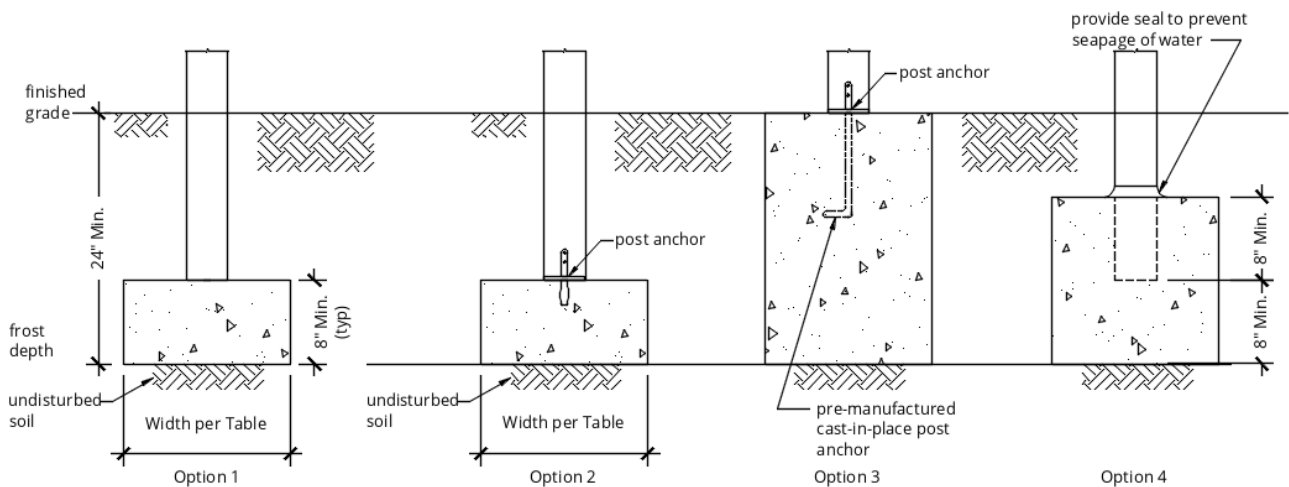

FIGURE 1 – POST TO FOOTING CONNECTION OPTIONS
- Post attachment requirements shall be in accordance with Figure 1.